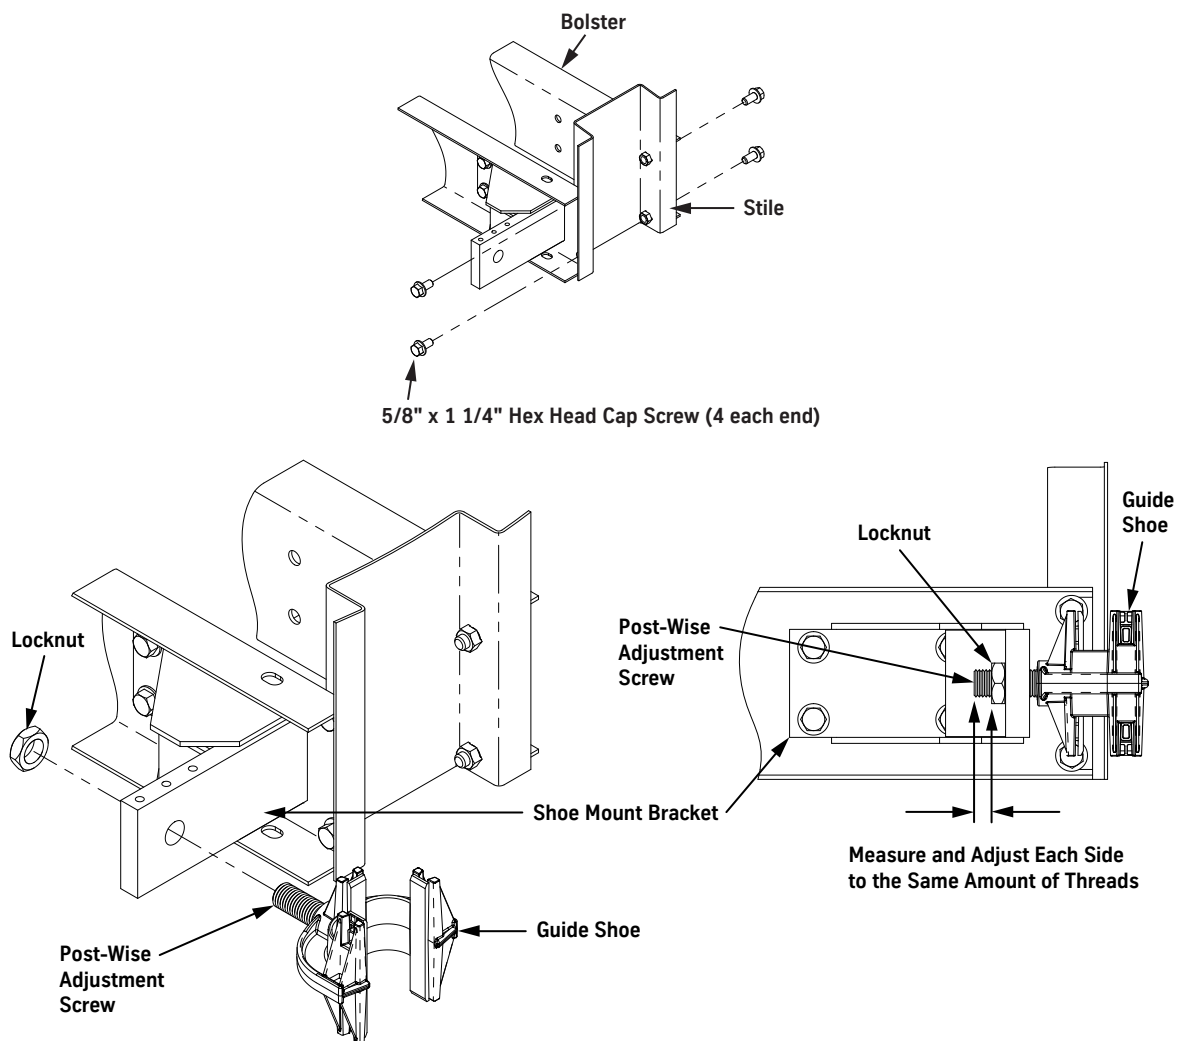

Figure 65 - Install Bolster Assembly and Bottom Guide Shoe
1. Snugly fasten the bolster assembly to the stiles. See Figure 65 for all steps in this procedure.